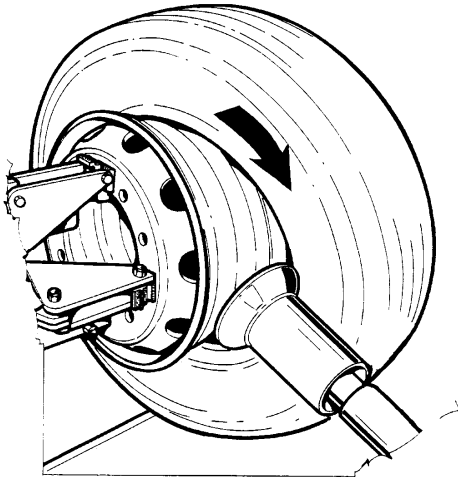

Fig.22
7. Continue rotating the chuck, moving toolholder carriage towards the outside until the beads are demounted from the rim (Fig.21 and Fig.22)